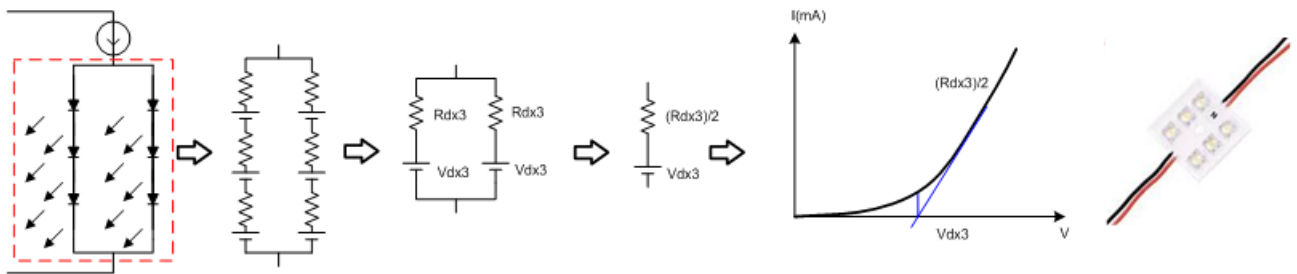

Fig 4-14 Fig 4-15 Fig 4-16 Fig 4-17 Fig 4-18
1.4 In parallel connection stacks of LED: Several LED stacks in parallel connection is also Can get more output brightness, V_d also will increase as series R_d is according to the Cascade and parallel. Fig 4-14 is 2 stacks LED to parallel, Fig 4-15 to Fig 4-17. are the LED's equivalent circuit, Fig 4-18 shows exponential V-I characteristic curve.